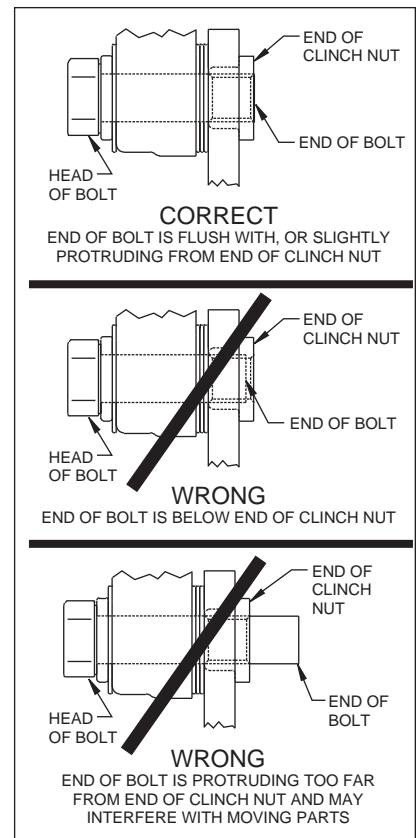

Figure 4. Clinch Nut Engagement Diagram
- NOTE:** Please reference the caution statement at the beginning of the assembly instructions. Mount the caliper (16) onto the caliper mounting bracket (1) using washers (17) and bolts (18). Finger tighten. View the rotor (9) through the top opening of the caliper (16). The rotor (9) should be aligned in the center of the caliper (16). If not, adjust the caliper (16) by using 0.032 inch thick shims (19) placed between the caliper mounting bracket (1) and the caliper (16). Add as many shim washers (19) as necessary to achieve the correct alignment. Add as many shim washers (19) as necessary to achieve the correct alignment. **NOTE:** The end of the bolt must be flush with or slightly protruding from the head of the clinch nut. See Figure 4. Place spare shims (19) between washer and caliper mounting ear to achieve the proper mounting fastener configuration. Always use the same amount of shims on both the top and bottom caliper mounting bolts (18). Finger tighten and recheck alignment, adjust as necessary. Apply red *Loctite*® 271 to bolt threads (18) and torque to 40 ft-lb. Caliper mount bolts may be safety wired for additional security.
- Install the disc brake pads (20) into the caliper (16).
- Secure the disc brake pads to the caliper utilizing cotter pin (21).